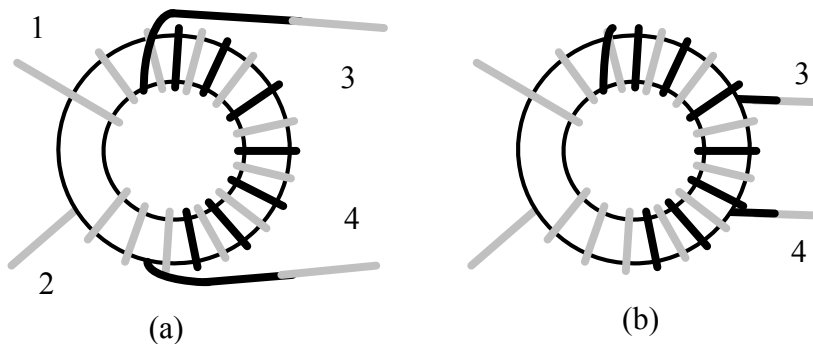

Figure 6-26
- T2 is wound on the same core type as T1 (FT37-43). Its windings must be spaced as shown in **Figure 6-26(a)**, with the 3-4 winding occupying about half the diameter of the core. T2's 1-2 winding is 12 turns of red enamel wire (13", 33 cm), and its 3-4 winding is 8 turns of green (9", 23 cm).
- Prepare T2's leads, but leave an extra 1/2" of insulation on leads 3 and 4 (green) as shown in **Figure 6-26(a)**.
- Fold the leads of T2's green winding (3-4) down and under the core as shown in **Figure 6-26(b)**.